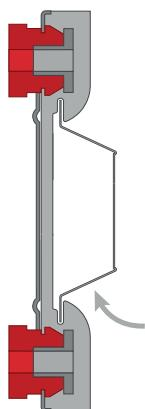

Figure 1
- ❑ Quickest installation is often achieved by pinching the Isobar bridge slightly at its end, so that the Isoblocks can slide easily into position (figure 1).